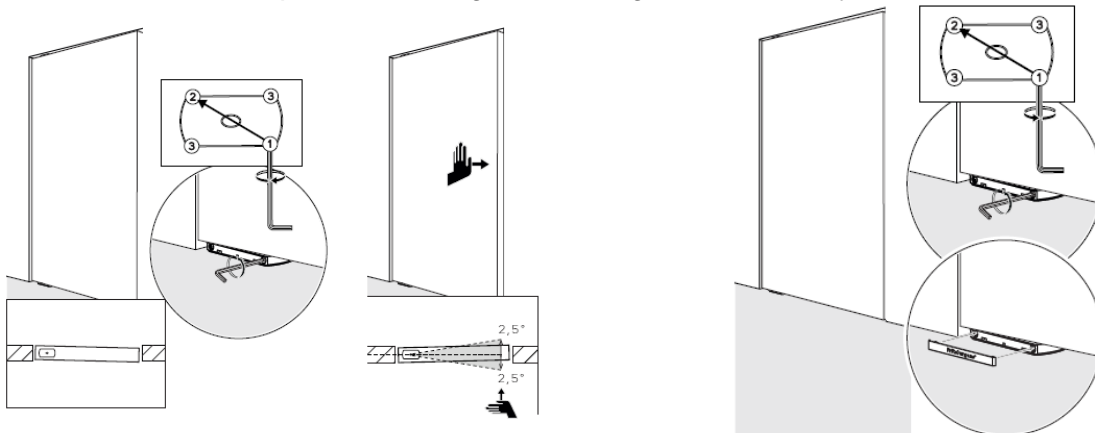

Figure 15:
6. To fine tune the radial position see Figure 15 using a 3mm hex key.